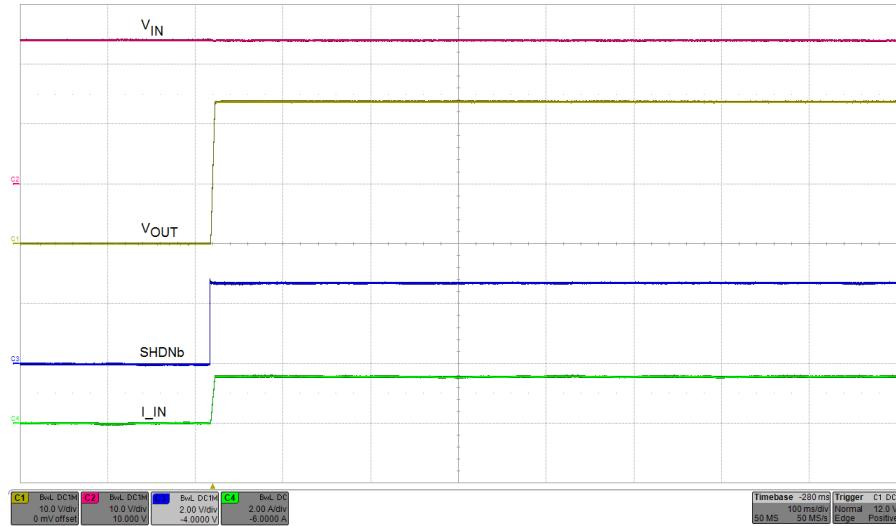

Figure 4-5. Restart From Latch-Off Mode
14. Press and release the reset switch (S1/S2) to re-enable the device from latch-off mode and verify the recovery or restart waveform as shown in Figure 4-5.